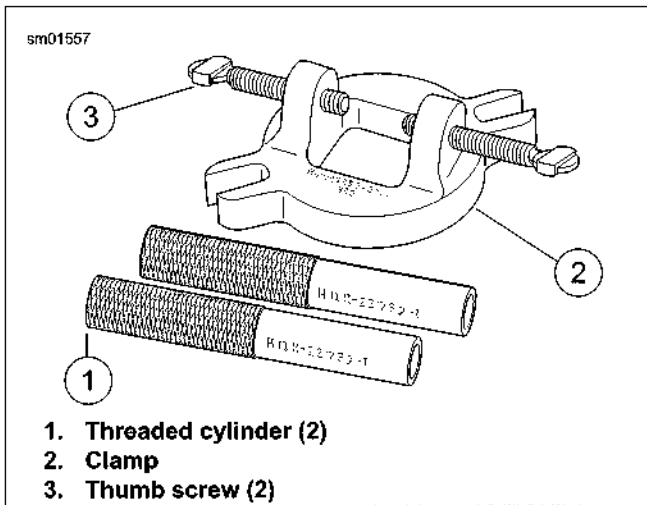
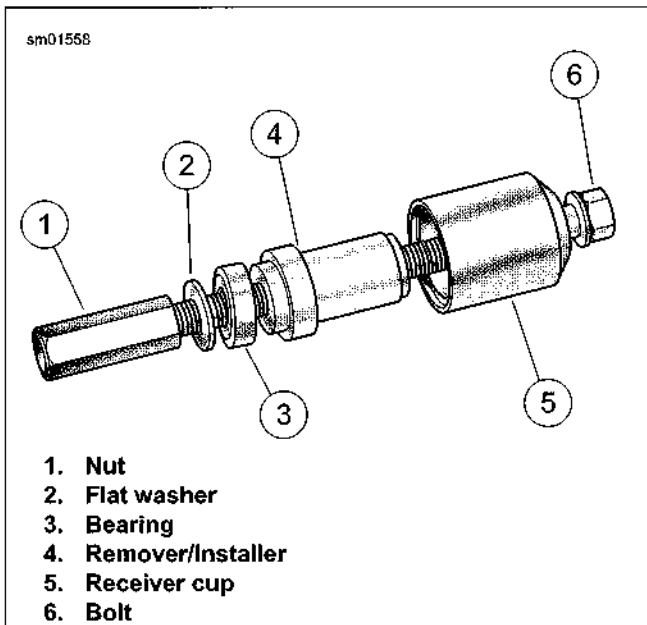
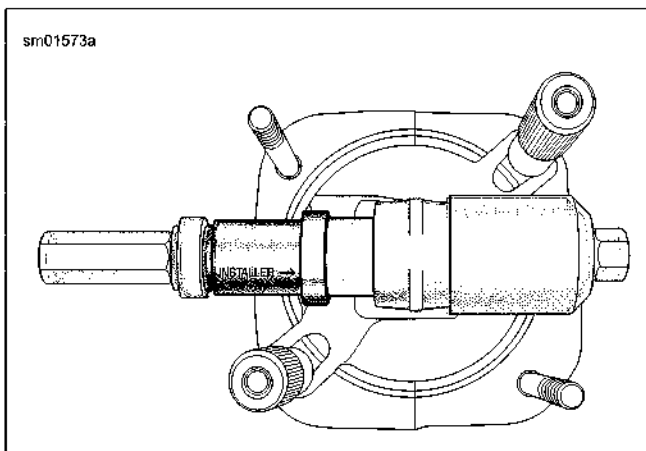

Figure 3-58. Connecting Rod Clamping Tool (Part No. HD-95952-33C)
Figure 3-59. Connecting Rod Bushing Remover/Installer (Part No. HD-95970-32D)
Figure 3-61. Installer Stackup
1. See Figure 3-58. Obtain the CONNECTING ROD CLAMPING TOOL and install as follows:
- a. Slide clamp (2) over connecting rod so that slots engage cylinder head studs. Exercise caution to avoid scratching or bending studs.
- b. With the knurled side up, screw threaded cylinders (1) onto studs to secure position of clamp.
- c. Alternately turn each clamp thumbscrew (3) a few turns to gradually fix position of connecting rod. Turning only one thumbscrew will move rod off-center, while tightening second thumbscrew can cause rod to flex or bend.
3. See Figure 3-59. Obtain the CONNECTING ROD BUSHING REMOVER/INSTALLER (Part No. HD-95970-32D).
- a. Sparingly apply graphite lubricant to threads of bolt (6) to prolong service life and provide smooth operation.
- b. Slide receiver cup (5) onto bolt with the closed side facing bolt head.
- b. See Figure 3-59. Slide bearing (3) and flat washer (2) onto bolt (6) until they contact remover/installer (4).
- c. Thread nut (1) onto bolt until assembly is snug.
1. See Figure 3-59. Obtain the **CONNECTING ROD BUSHING REMOVER/INSTALLER** (Part No. HD-95970-32D).
- d. See Figure 3-61. Slide **new** bushing onto bolt. Start bushing into bore. Be sure that bushing is square in bore and not cocked.